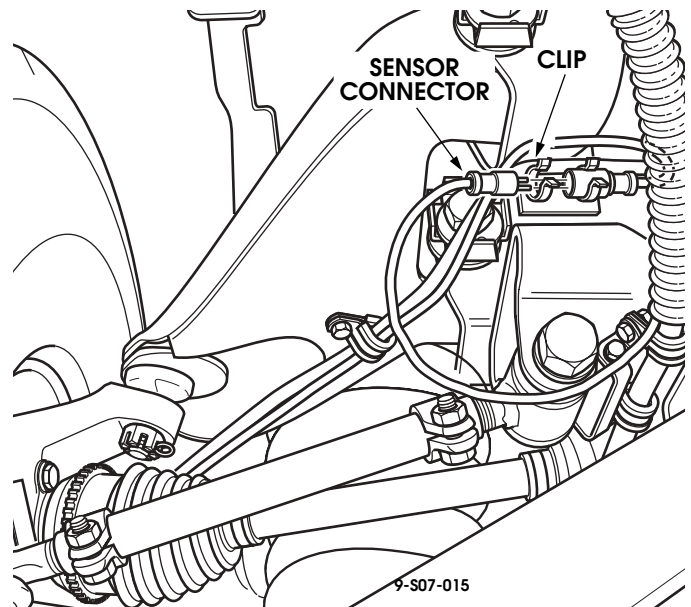

Figure 7-57: Speed Sensor Connection
3. Remove the speed sensor connector from the retaining clip near the top of the upper A-arm and disconnect the speed sensor lead from the speed sensor harness (Figure 7-57).